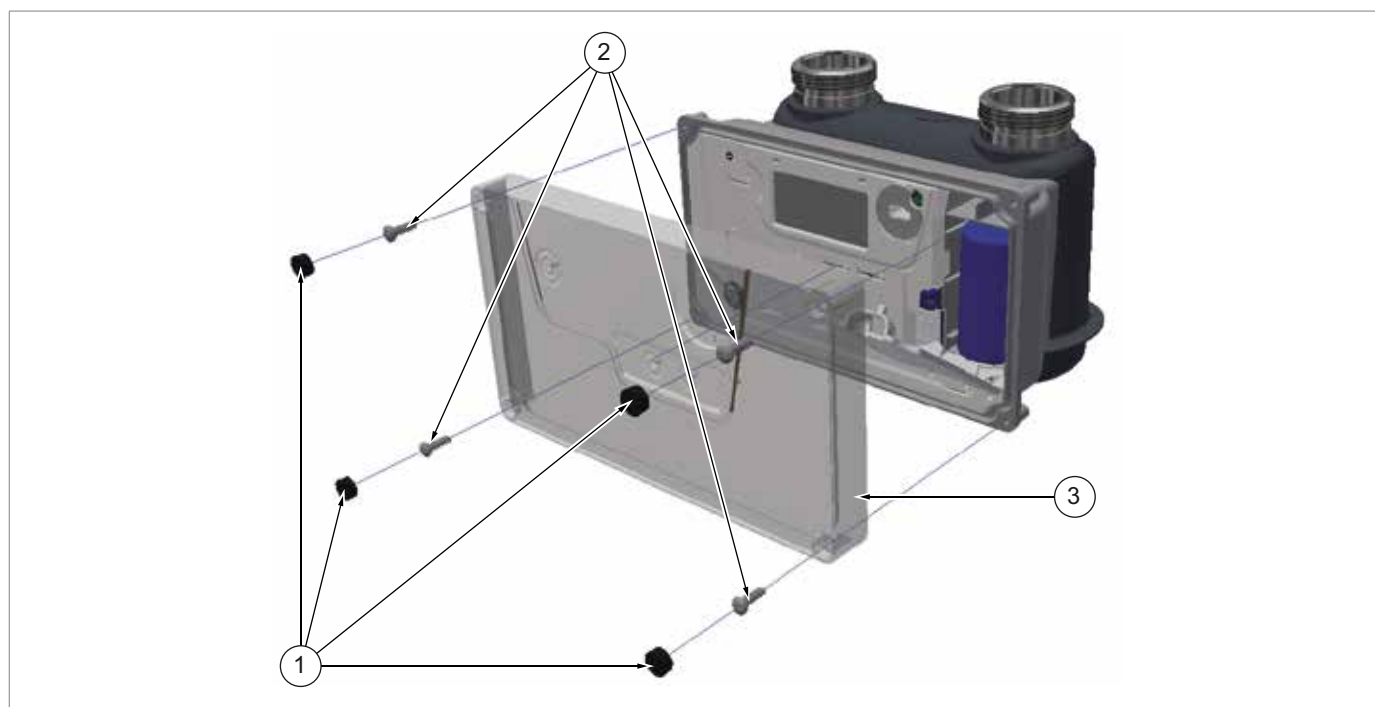

Fig. 11.10.
- a position specified in the assembly drawing of the equipment (Fig.11.10.);